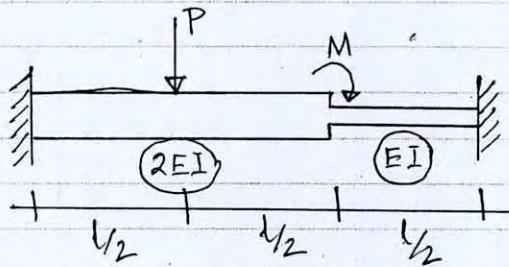

Fig. 12
12. Determine the modified stiffness equation imposing support conditions of the beam shown in Fig. 12. (21)